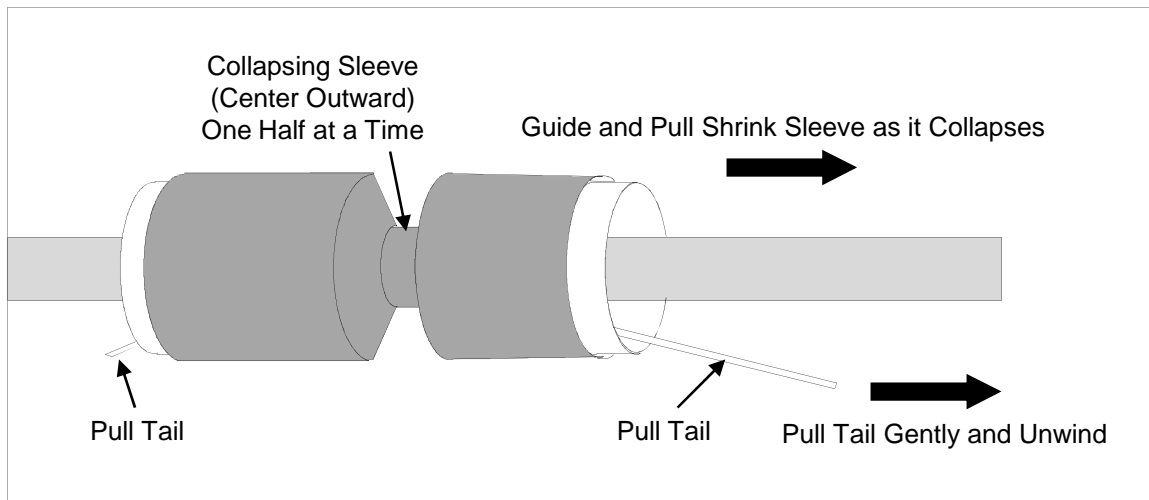

Figure 7
7.7 Collapse the shrink sleeves over the coupled tubes by carefully pulling on the sleeve's Pull Tails. **See Fig. 7.**